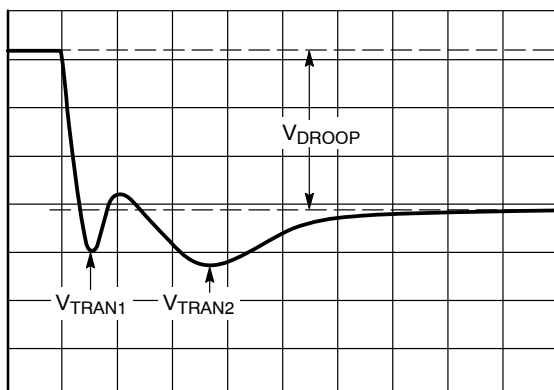

Figure 36. Transient Setting Waveform, Load Step
1. With the dynamic load set at its maximum step size, expand the scope time scale to 2 μ s/div to 5 μ s/div. This results in a waveform that may have two overshoots and one minor undershoot before achieving the final desired value after V_{DROOP} (see Figure 36).